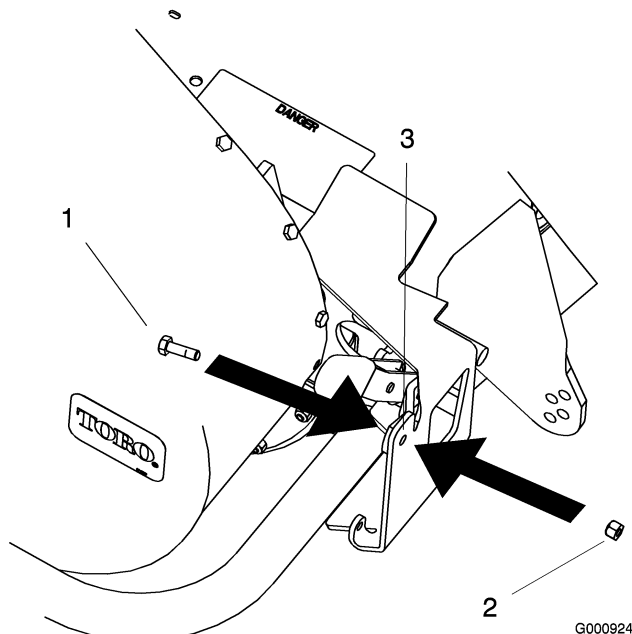

Figure 7
2. Install the latch assembly and pivot plate using the previously drilled hole in the blower with a bolt (5/16 x 1 inch) and locknut (5/16 inch) (Figure 7).